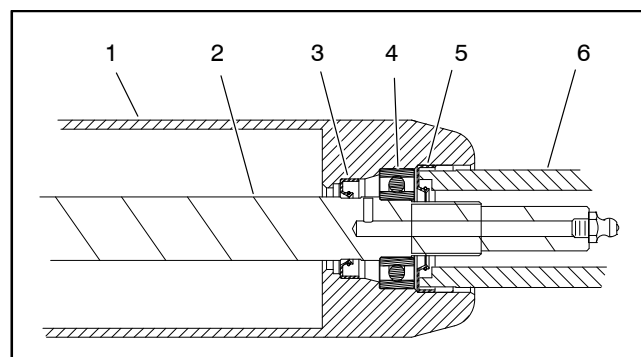

Figure 46
D. Carefully install first outer seal into roller tube making sure that seal lip (and garter spring) faces end of tube. Use bearing/outer seal tool (see Special Tools) and soft face hammer to lightly seat seal (Fig. 46). Make sure that shaft and bearings still freely rotate after seal installation.